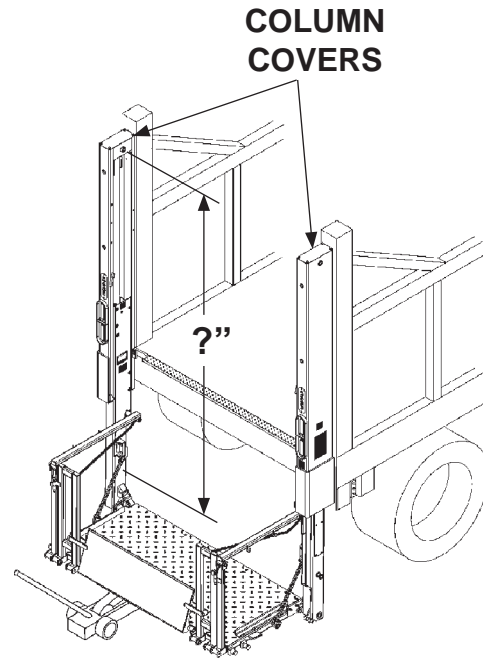

FIG. 20-1
1. Raise the open platform about 20" above the ground. Place a jack and jack stands under the platform (**FIG. 20-1**) for support. Measure and record the distance between the centers of upper and lower cylinder pins. Keep measurement for reference when installing new cylinder.
2. Remove cover from the top of the column (**FIG. 20-1**). Put empty oil drain pan under column.